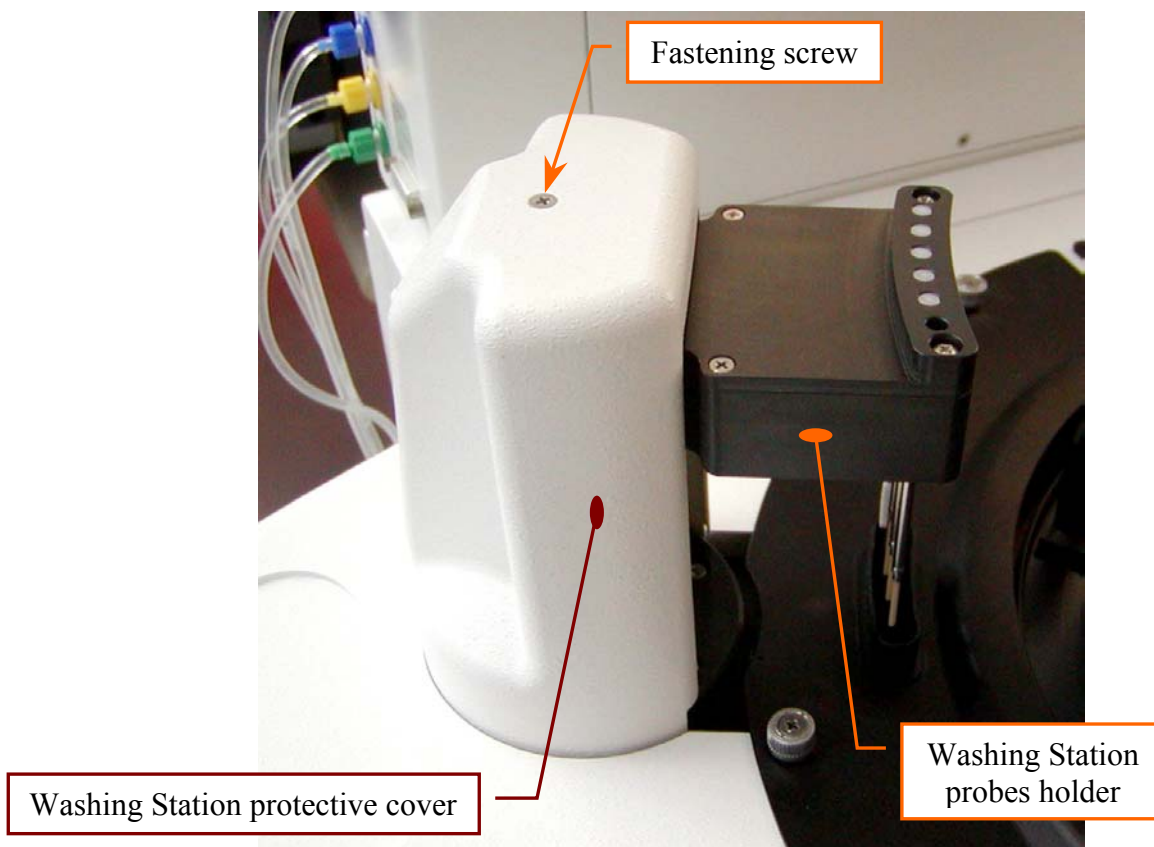
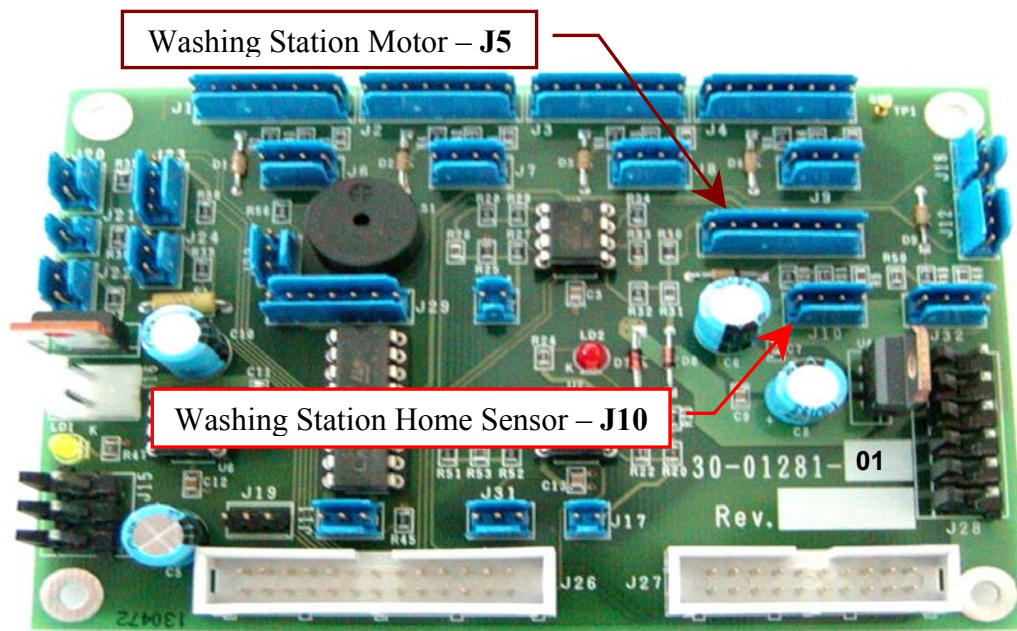
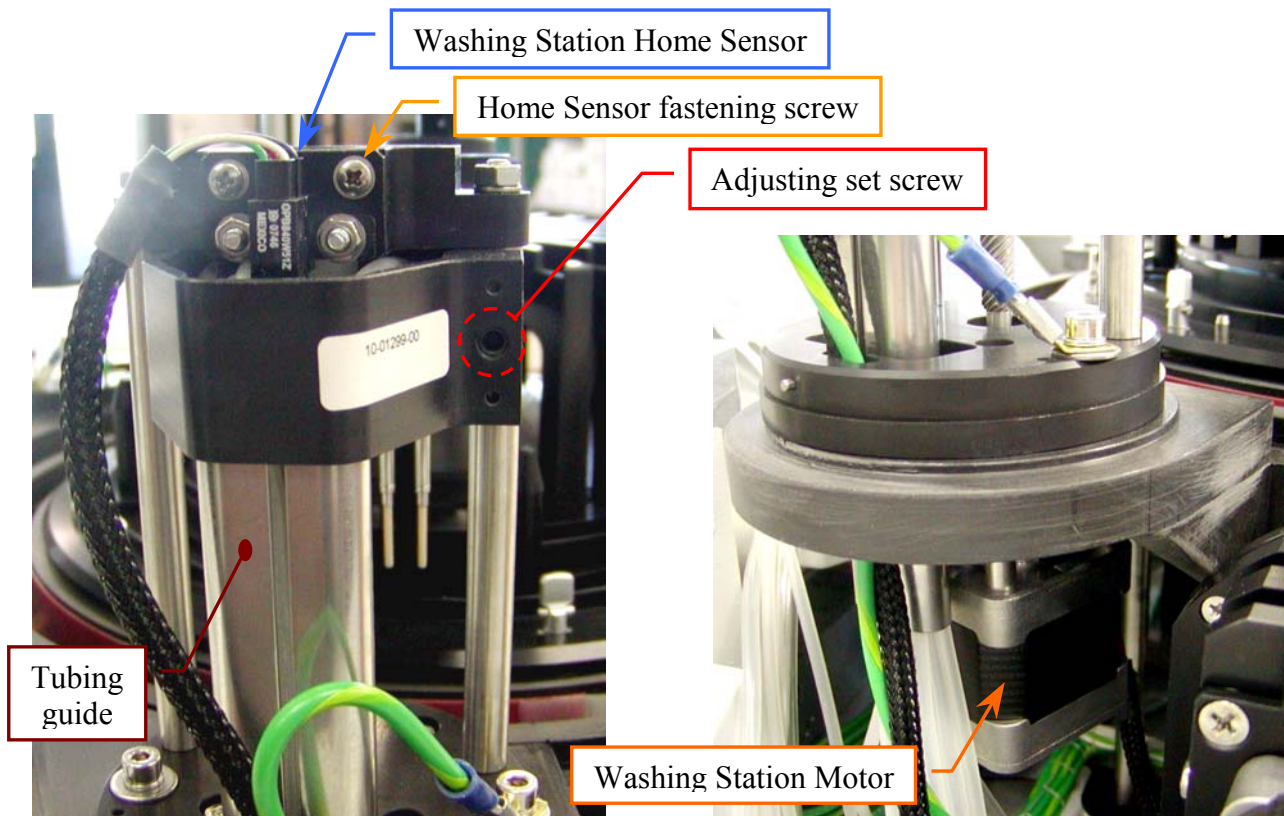

Fig. 70 - Washing Station protective cover
Fig. 74 - Plate Interface Board [P/N: 30-01281-01]
Fig. 75 - Washing Station Home Sensor
1. Unscrew the fastening screw and remove the Washing Station protective cover (**Fig. 70**).
6. Remove the J5 and J10 connectors from the Plate Interface Board (**Fig. 74**).
3. Remove the two fastening screws from the Home Sensor Assy (**Fig. 75**), unplug the J10 connector from the Plate Interface Board (**Fig. 74**), take out the entire assy and replace it with the new one.
1. Unscrew the fastening screw and remove the Washing station protective cover (**Fig. 70**).
4. Remove the J5 connector from the Plate Interface Board (**Fig. 74**).
2. Turn on the *Ellipse* instrument, unscrew the fastening screw of the Washing Station protective cover (**Fig. 70**) and remove the cover from its place.
- c. loosen the two fastening screws of the Washing Station Home Sensor (**Fig. 75**);
- e. tighten the two fastening screws of the Washing Station Home Sensor (**Fig. 75**);
13. Replace the Washing Station protective cover on the Washing Station and screw its fastening screw (**Fig. 70**).
If the horizontal backlash of the Washing Station probes holder (**Fig. 70**) is excessive, then adjust it acting on the **adjusting set screw (Fig. 75)**.